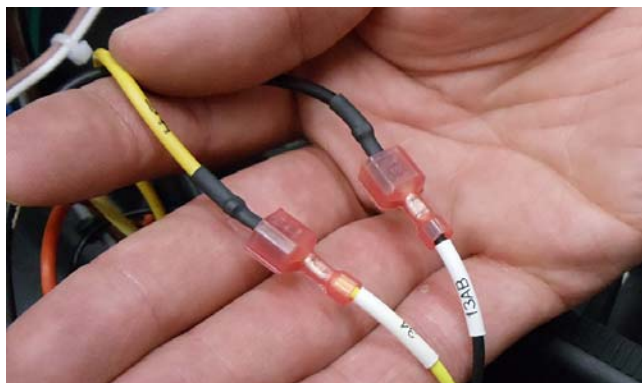

Fig. 18
17. Connect wires 13AB/Black and 34/Yellow from the new wire harness to the yellow and black wires that were disconnected from the old BDI (Figure 18).